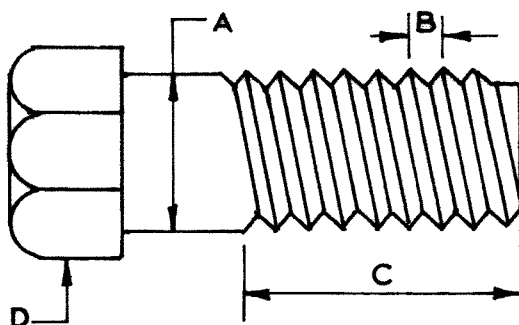

Fig. 1
- (b) Name the parts labelled A, B, C and D on the fastener in **figure 1**. (2 marks)